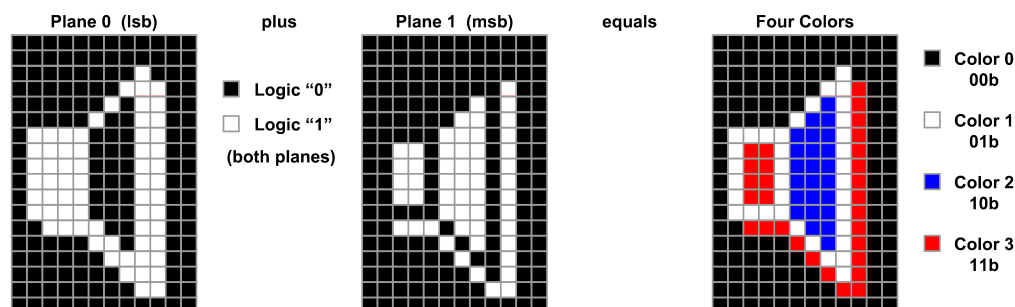

Figure 16. Four-Color Character
2. Four-color: There are a total of 64 four-color characters stored in the character ROM. Each pixel of the four-color character is defined by two bits of information, and thus can define four different colors, Color 0, Color 1, Color 2 and Color 3. Color 0 is defined as the "background" color. All other colors are considered "foreground" colors, although for most purposes, any of the four colors may be used in any way. Because each four-color character has two bits, the LM1246 internally has a matrix of two planes of ROM as shown in Figure 16. In that figure, dark pixels indicate a logic "1" and light pixels which indicate a logic "0". The left side shows plane 0 which is the least significant bit and the middle figure shows plane 1 which is the most significant bit. The right side composite character formed when each pixel is represented by its two bits formed from the two planes. The color palette used in this example is "00" for white, "01" for black, "10" for blue and "11" for red.